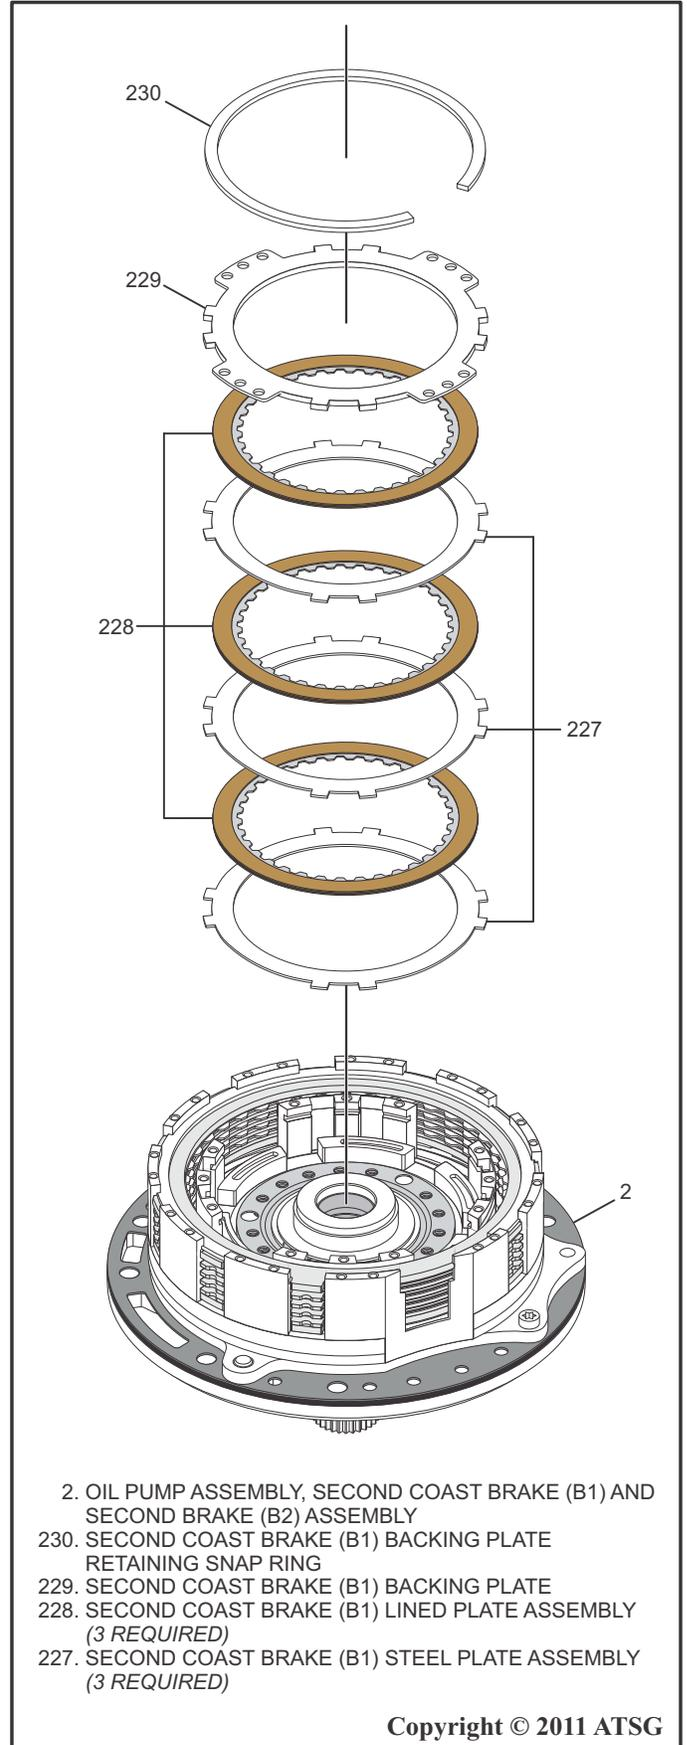

Figure 111
56. Install the Second Coast Brake (B1) clutch plates starting with a Steel Plate and alternating lined plates and steel plates, ending with a lined plate as shown in Figure 111.
57. Install the Second Coast Brake (B1) Backing Plate as shown in Figure 111.
59. Using SST J 28585 or a pair of snap ring pliers, install the Second Coast Brake (B1) Backing Plate Retaining snap ring making sure the snap ring is fully seated as shown in Figure 111.